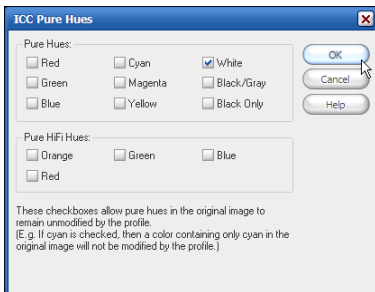

Figure 8—Pure Hues
- **Pure Hues**—if you want to print your primary process colors without the profiles, click **Pure Hues** (the button with the colored squares; see Figure 8). Using Pure Hues applies the profile to all the colors except those with the checkbox selected on the Pure Hues dialog.